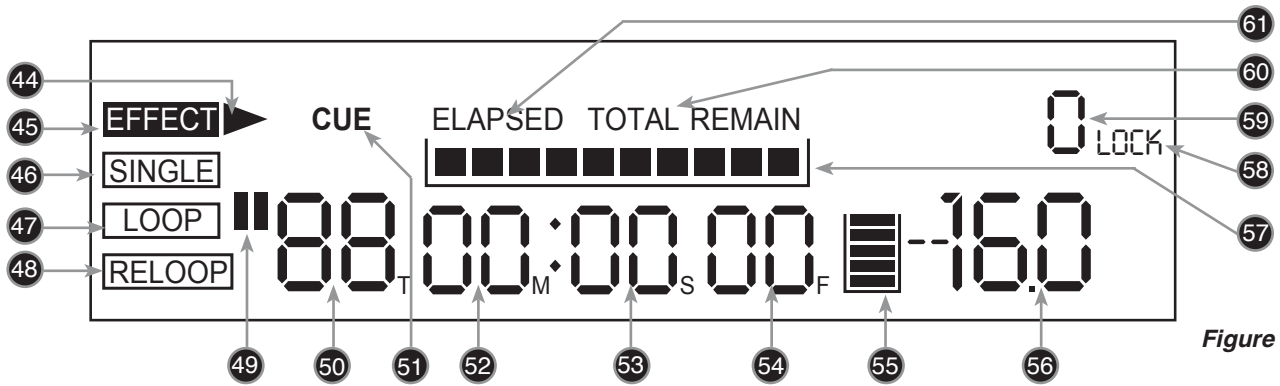

Figure 6
D. LCD DISPLAY PANEL (FIGURE 6)